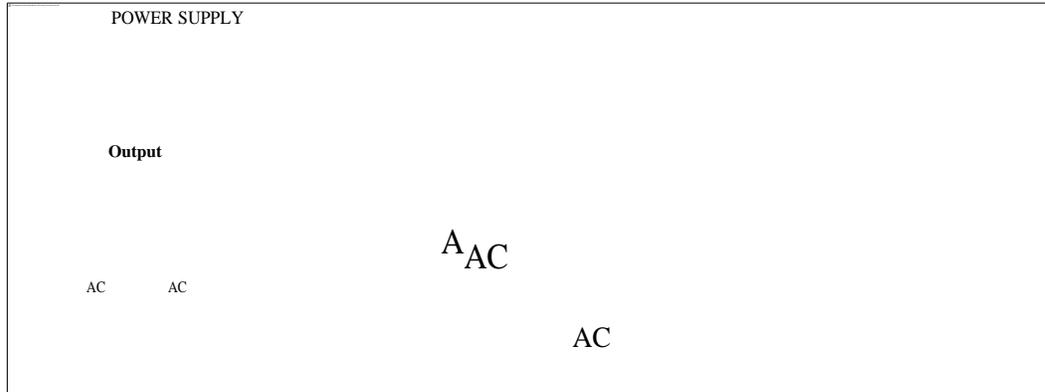

FIGURE 8.14
Step 3:a) Connect both main and auxiliary windings in parallel as shown in Figure 8.14.